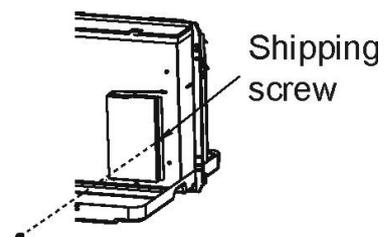

Fig.5
- Remove the shipping screw from the vent door.(See Fig.5)
- Make sure to remove the shipping screw from the vent door.(See.Fig.5)